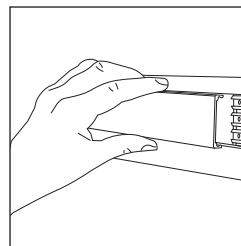

Fig.2
*Replacing Center SignBands* (Fig. 2)